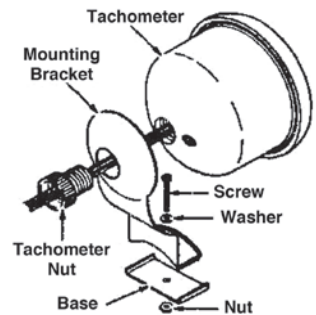

Fig. 2
- a. For on-dash or under-dash mounting, drill a 3/16 in. hole in the dash. Install base (#4) and mounting bracket and secure to dash with screw (#7), washer (#8) and nut (#9). (Fig. 2)